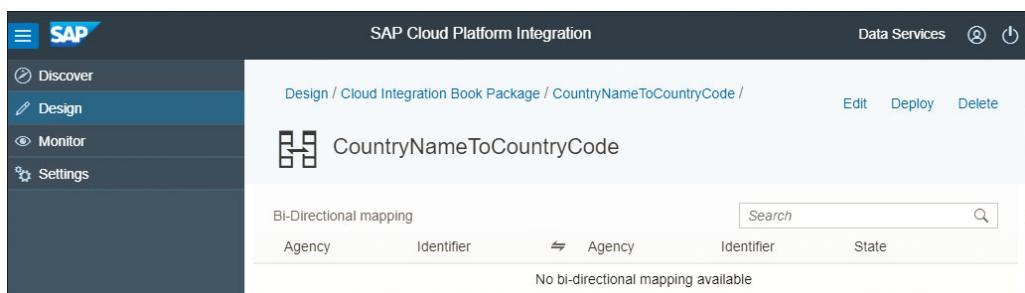

Figure 4.87 Value Mapping Editor
4. Navigate to the right package, and open the value mapping that you just created in the previous step. You end up with a value mapping editor as shown in Figure 4.87.